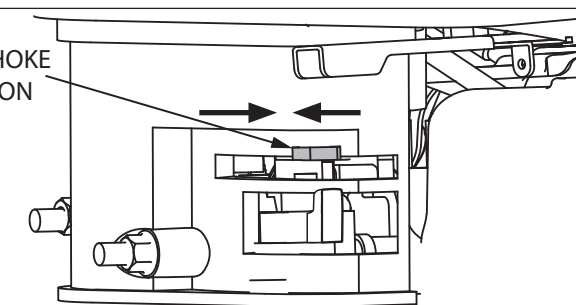

FIGURE 6
- If the engine is warm or the ambient temperature is high, move choke lever to the **RUN** position or 1/2 way between the **FULL CHOKE** and **RUN** positions. **SEE FIGURES 6 AND 7.**
9. After engine begins operating, move choke lever 1/2 way between the **RUN** and **FULL CHOKE** positions. This position is considered the **HALF CHOKE** position. **SEE FIGURE 6.**